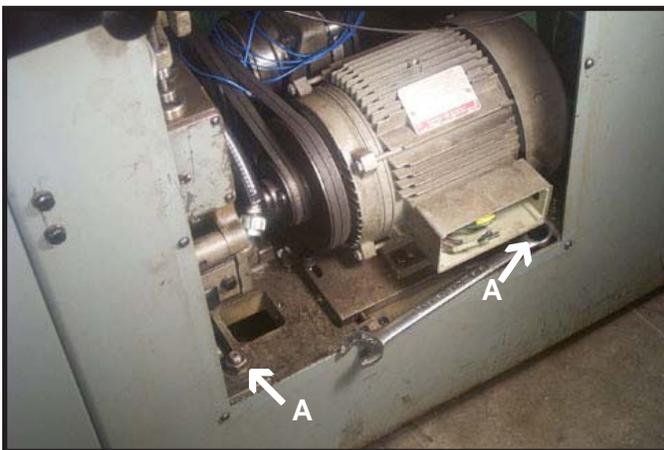

Figure 2.3.2
At the front of the lathe, unwire the spindle motor. Remove the nuts from the two front side jack bolts at the front of the lathe (Figure 2.3.2 - A). After the spindle motor mounting plate is removed, there are (2) nuts on the bottom side that need to be removed.